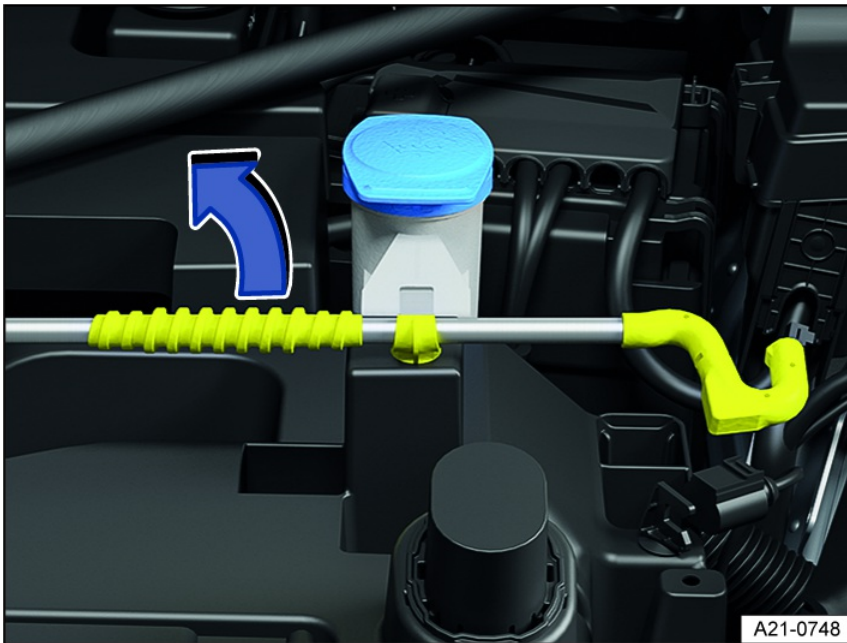
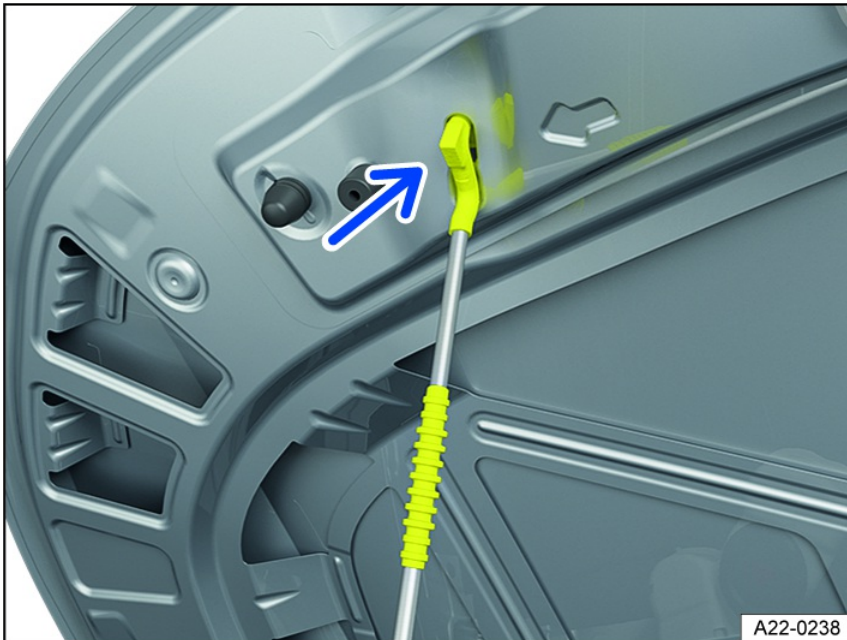

Fig. 158 In the hood space: Hood support in the bracket.
Fig. 159 On the engine hood: Hood support bracket (general example).
3. Lift the hood support out of the bracket fig. 158 in the direction of the arrow and hook it into the opening fig. 159.
2. Unhook the hood support from the opening fig. 159 and clip it back into the bracket fig. 158.